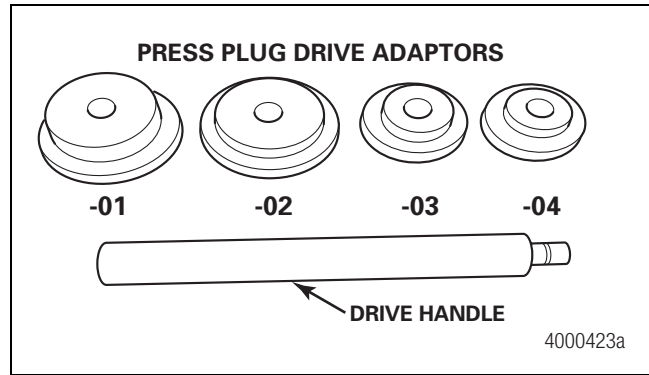

Figure 11
10. Choose the correct press plug drive adaptor by matching the axle manufacturer and model to the press plug drive adaptors. Refer to the special tools section at the back of this document for part numbers of special tools and supplies. Figure 11.